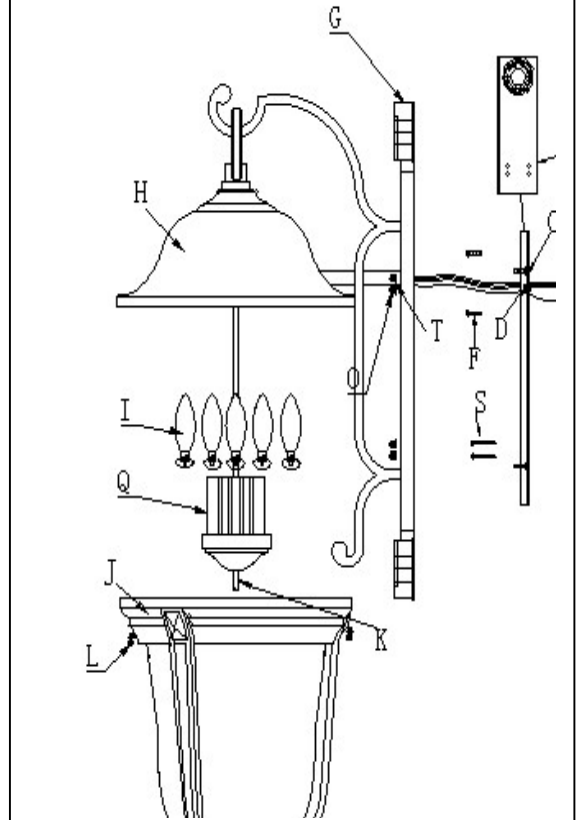

Fig.2
CONNECTING THE WIRES (Fig. 2)
6. Connect the electrical wires as shown in Fig.2 with wire connectors (E), making sure that all wire connectors (E) are secured. If your outlet box (A) has a ground wire (green or bare copper), connect the fixture's ground wire to it. Otherwise, connect the fixture's ground wire directly to the mounting plate (B) using the green screw (D) provided. After the wires are connected, carefully tuck them inside the outlet box (A).